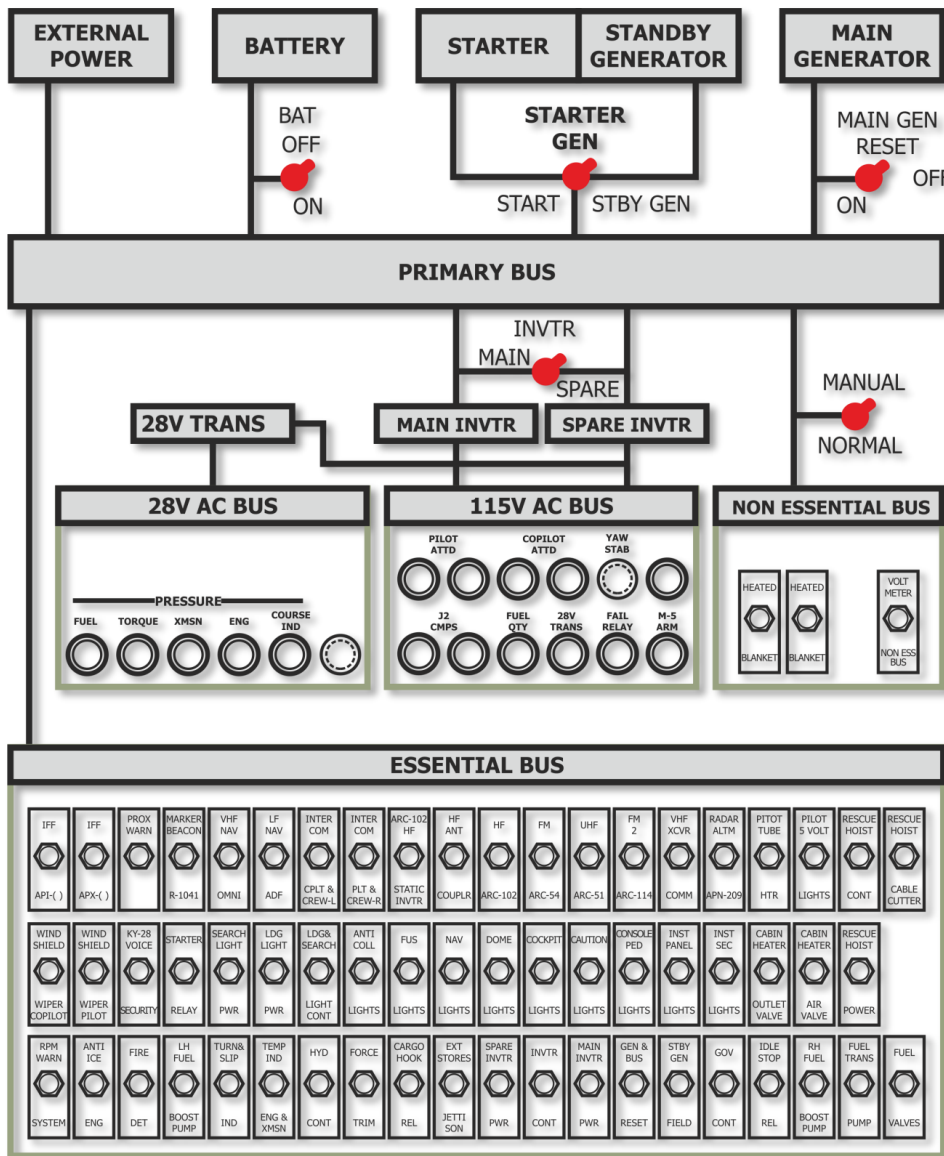
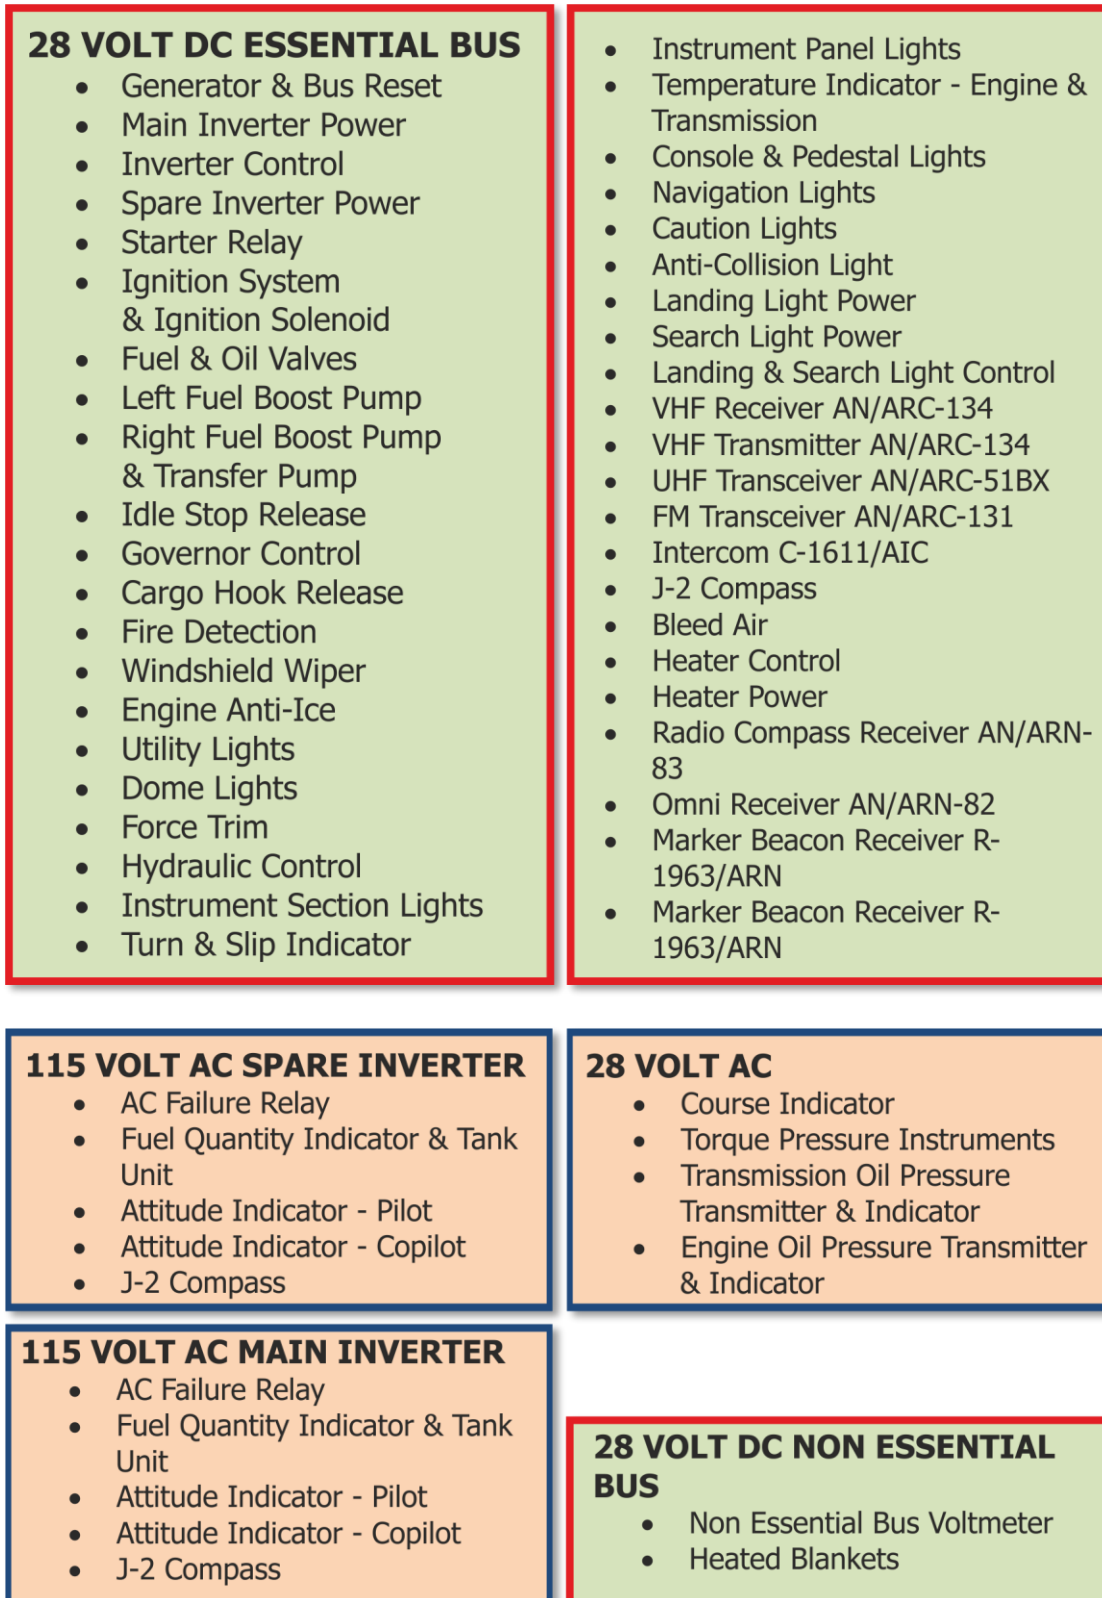
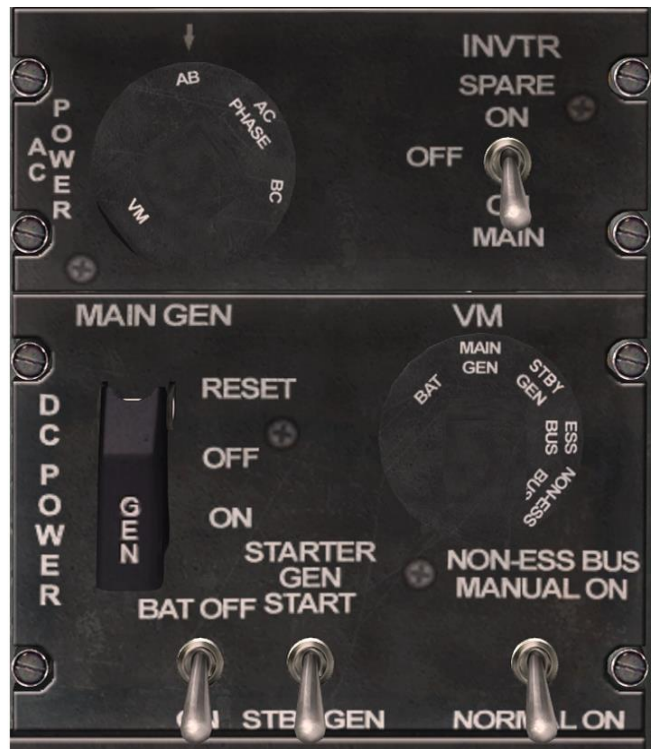

Figure 6.2. Electrical System Schematic.
Figure 6.4. DC and AC Power Distribution Diagram.
Figure 6.5. Overhead Console AC and DC POWER Panel.
Figure 6.2. Figure 6.4 depicts the general schematic of the DC and AC power distribution system. The DC power is supplied by the battery, main generator, standby starter-generator, or the external power receptacle. The 115 VAC power is supplied by the main or spare inverters. The 28 VAC power is supplied by a transformer which is powered by the inverter.
A. MAIN GENERATOR SWITCH The MAIN GEN switch (Figure 6.5) is on the overhead console DC POWER panel. In the ON position the main generator supplies power to the distribution system. The RESET position is springloaded to the OFF position. Momentarily holding the switch to RESET position will reset the main generator. The OFF position isolates the generator from the system. The circuit is protected by the GEN & BUS RESET in the DC circuit breaker panel.
Alternating current is supplied by two inverters (Figure 6.2). They receive power from the essential bus and are controlled from the AC POWER control panel (Figure 6.5).